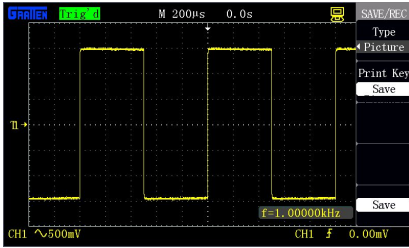

Figure 2-61 Image save
As shown in figure 2-61, waveform images can be saved in the USB flash disc but cannot be recalled by the oscilloscope. The images are in standard BMP format and can only be opened by related software in computer.
**"Save":** It can be used for saving the screen image in a special menu (see the menu bar shown in figure 2-61).